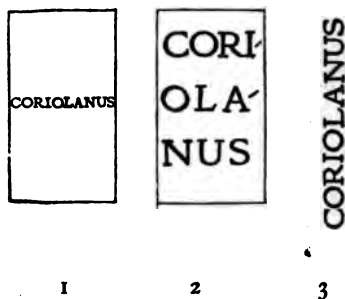

FIG. 95.
As a general rule, lettering looks best if it comfortably fills the panel, but of course it cannot always be made to do this. The greatest difficulty will be found in making titles of books that consist of a single word, look well. Thus if you have "CORIOLANUS" to place on a back which is not more than  $\frac{1}{8}$ -inch wide, if it is put across as one word, as at fig. 95 (1), it will be illegible from the smallness of the type, and will tell merely as a gold line at a little distance. If a reasonably large type is used, the word must be broken up somewhat, as at (2), which is perhaps better, but still not at all satisfactory. The word may be put straight along the back, as at fig. (3), but this hardly looks well on a book with raised